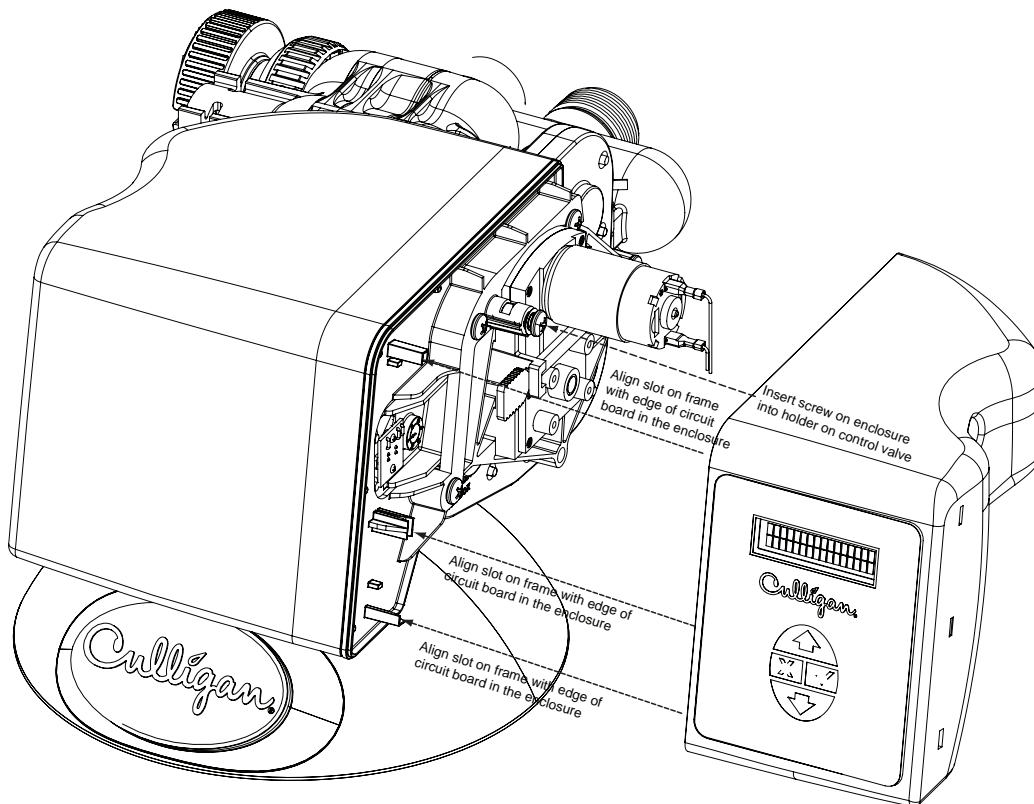

Figure 25. Attaching enclosure cover to control valve.
- a. Align the circuit board in the enclosure with the three support brackets on the control valve frame. See Figure 25.